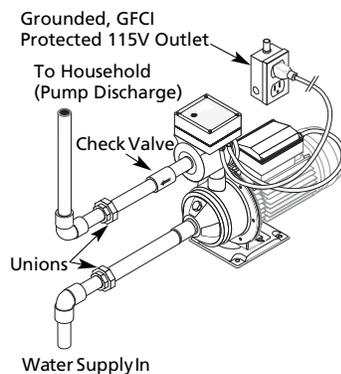

Figure 2 – Typical household booster installation. Purchase plumbing fittings separately. Consult code for relief valve/pressure regulator requirements
If not already in the plumbing system, install a pressure relief valve in the pump discharge line capable of passing the full pump flow at 100 psi (689 kPa) (See Figure 2, page 5). If local code requires installation of a pressure relief valve capable of handling the full pump
9. Install piping from elbows to pump including a union in each line and a check valve in the pump discharge line. The arrow on the check valve must point away from the pump discharge (see Figure 2). If not already in the plumbing system, install a pressure relief valve in the pump discharge line capable of passing the full pump flow at 100 psi (689 kPa). If local code requires installation of a pressure relief valve capable of handling the full pump flow at a pressure less than 100 psi
⚠ WARNING *Hazardous voltage. Risk of dangerous or fatal electric shock. Plug the pump into a 115 Volt, 60 Cycle, Ground Fault Circuit Interrupter (GFCI) protected grounded outlet only. The pump is equipped with a 3-wire grounded cord and plug. Do not modify or remove the plug. Make sure the outlet meets the National Electric Code or the Canadian Electrical Code, as applicable. To avoid dangerous electrical shock hazard, keep the cord dry at all times. See Figure 2, page 5.*